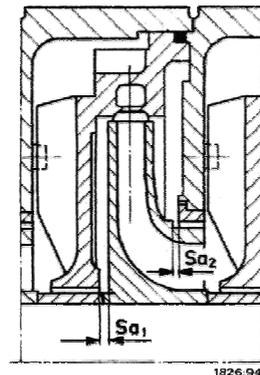

Figure 36 – Total axial clearance
6. Insert the diffuser (171.1) in the stage casing (108). Mount the stage casing on the suction casing (106). Mount the stage casings in the correct sequence.
8. After mounting each stage check the overall axial clearance  $Sa_1 + Sa_2$  of the impeller (min. 5 mm) (Fig. 36).